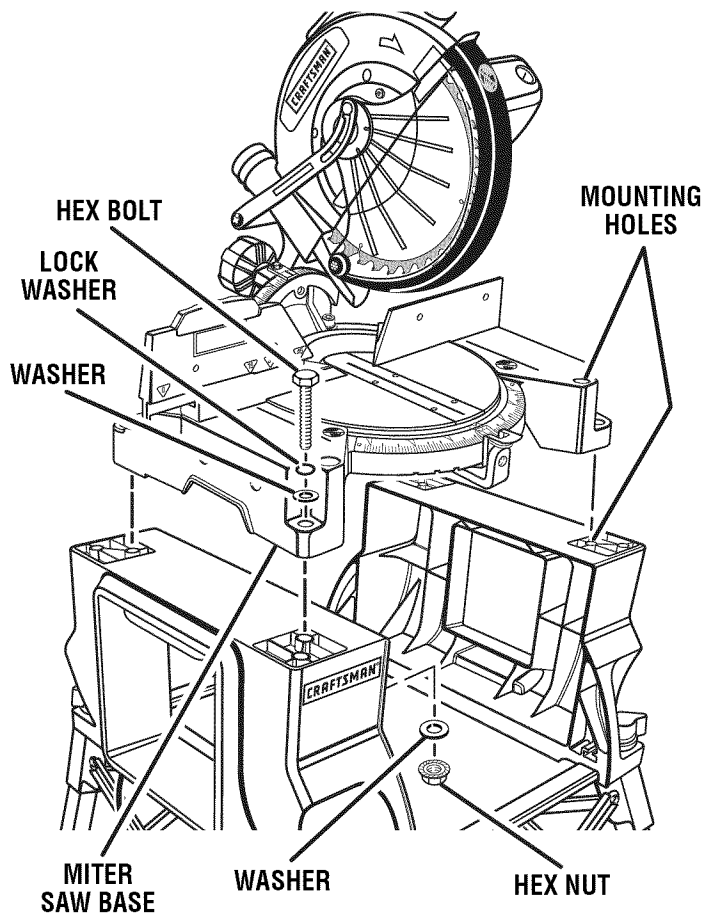

Fig. 5
See Figure 5.
- Insert the supplied 3/8 in. machine bolts through the holes in the miter saw base. Each of the four mounting holes should be bolted through the miter saw base securely using supplied 3/8 in. machine bolts, lock washers, and hex nuts as shown in figure 5.